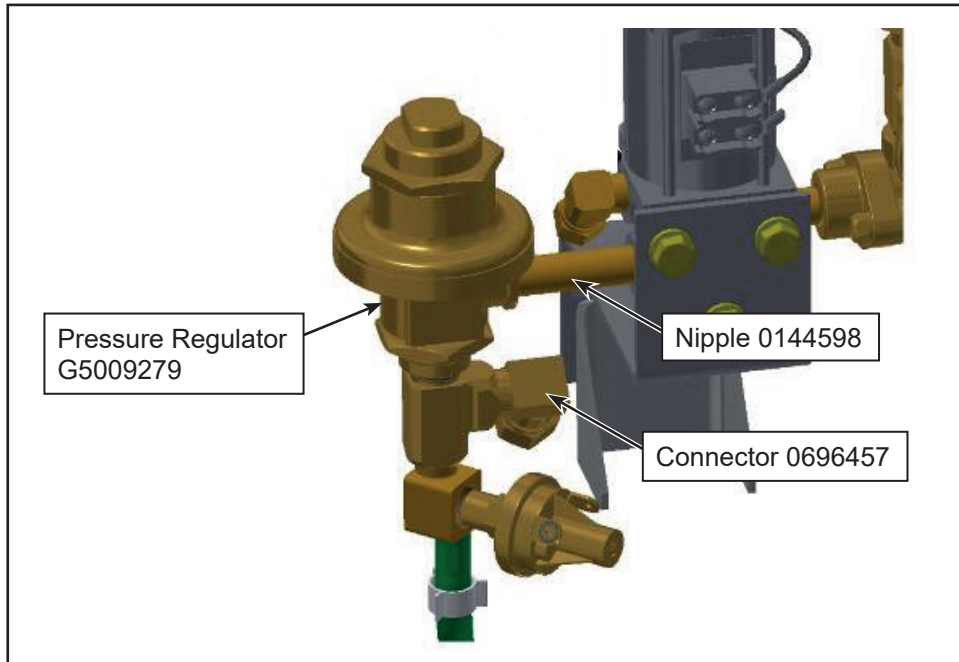

Figure 4 - Removal of Old Pressure Regulator
- 1.10. Remove the old pressure regulator P/N G5009279, nipple P/N 0144598 and connector P/N 0696457 (see figure 4).